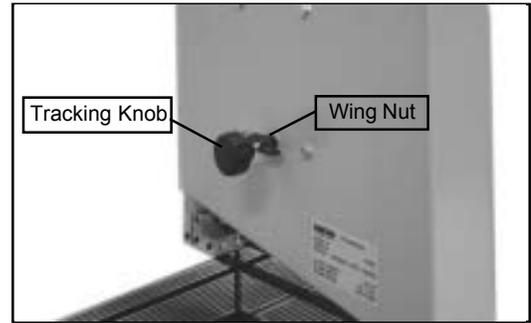

Fig.10
- g. If required, adjust the tracking by using the tracking knob and locking wing nut (See Fig. 10 page 8) to the rear of the upper bandsaw wheel housing. When tracking is correct, tighten the locking wing nut.
Set the tracking of the blade before setting the blade guides. Once the blade is installed and tensioned, track the blade by adjusting the tracking knob by hand (See Fig. 10). The blade should run in the center of the bandsaw wheel as shown in (See fig. 9). When the correct adjustment is achieved lock the tracking knob with the wing nut. (See Fig. 10)